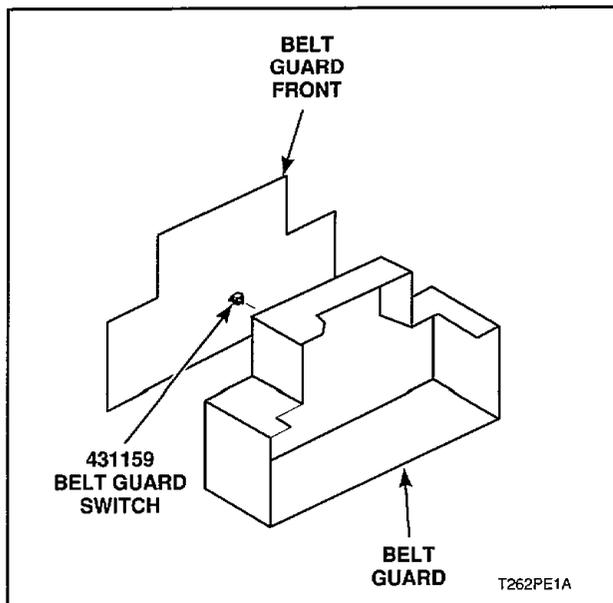

Figure 25
(Figure 25)**
- a. Remove screws holding belt guard front to belt guard, *Figure 25*.